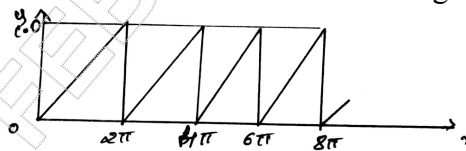

Fig Q2(b)
- b. Find the Fourier series for the saw tooth wave as shown in Fig Q2(b)